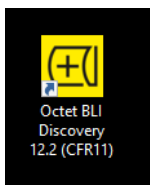

Figure 4-1: Octet® BLI Discovery 21 CFR Part 11 Software Desktop Shortcut
1. Launch Octet® BLI Discovery 21 CFR Part 11 software by double-clicking the desktop shortcut (Figure 4-1).